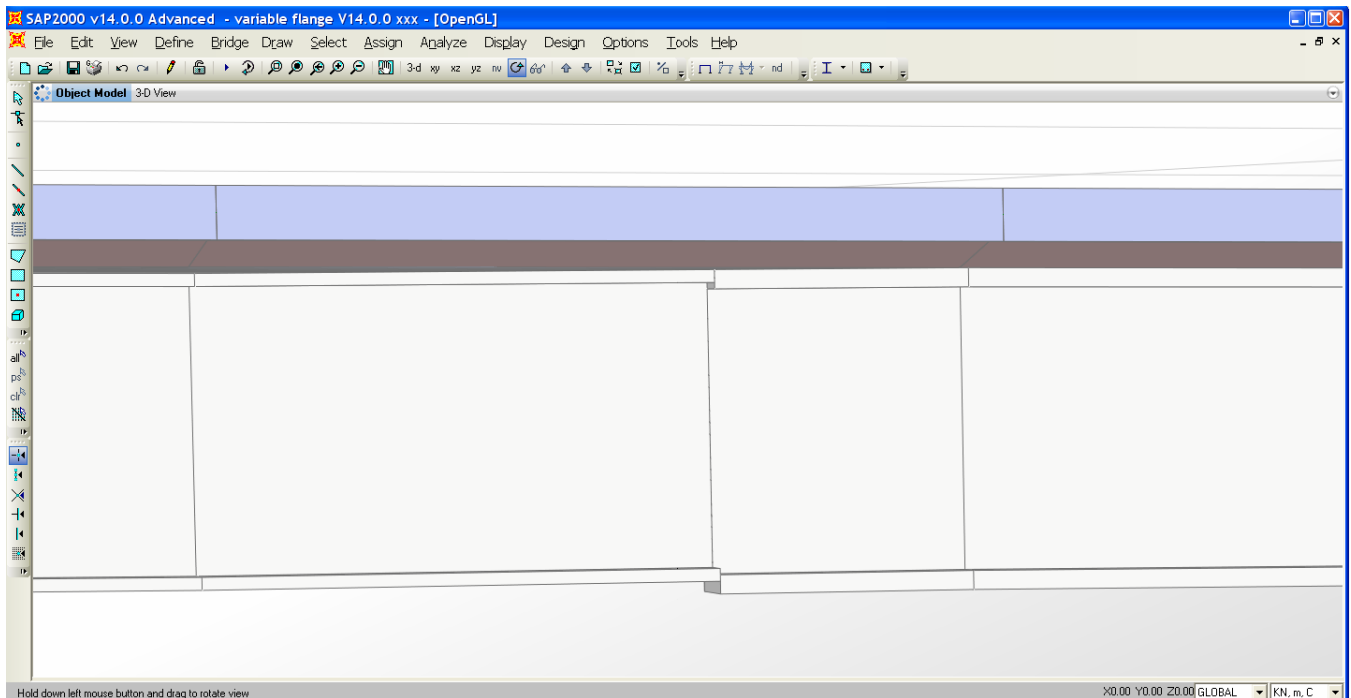

Figure 4 - Extruded view
- Use View > Set Display Options > Show Extruded Shape to display the extruded shape of the bridge. Please note that there is a graphical discontinuity, though the frame elements are inserted such that top-of-web locations form a continuous line. This may be checked by reviewing the insertion point (top center) and offsets. The extruded view is shown in Figure 4: